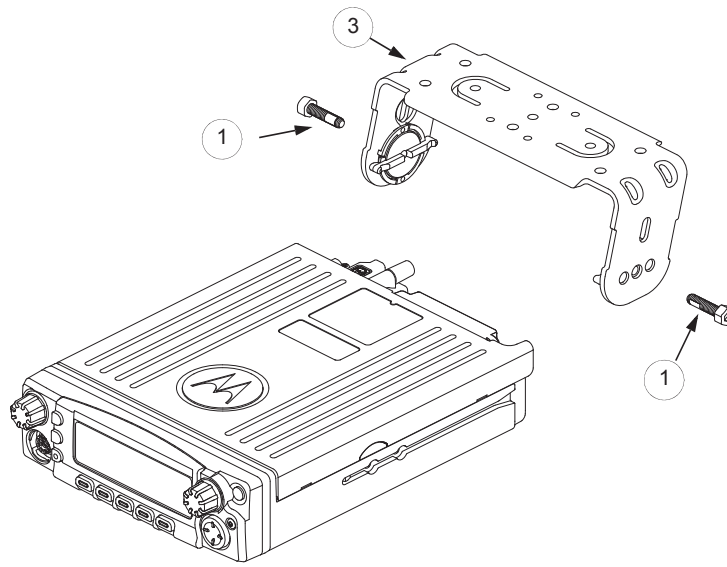
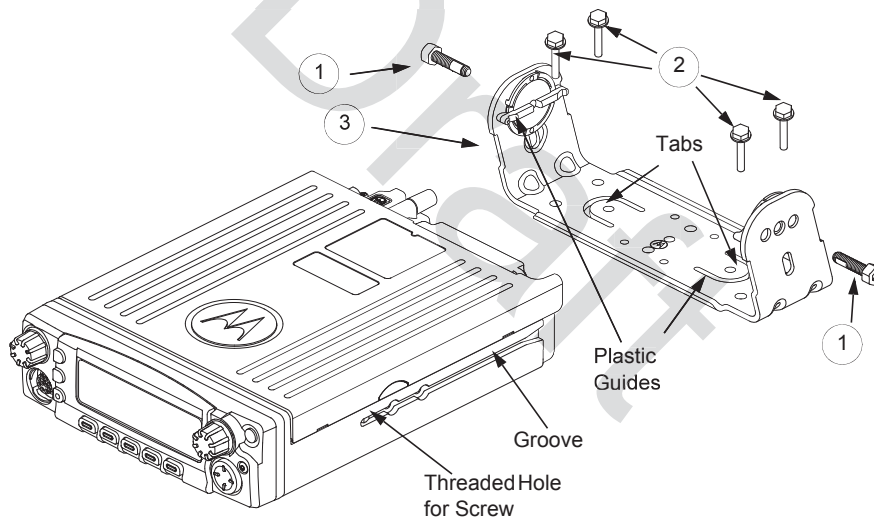

Figure 2-19. Transmission Hump Trunion Mounting
Figure 2-20. Below Dash Trunion Mounting
1. Select the location to mount your radio on the transmission hump (see Figure 2-19) or under the dash (see Figure 2-20)
4. Secure the trunnion mounting bracket with the four self-drilling screws provided (see Figure 2-19 and Figure 2-20).
5. Ensure that the plastic guides are aligned (horizontal) to the grooves of the trunnion. Slide the radio into the grooves until it snaps into place (see Figure 2-20).